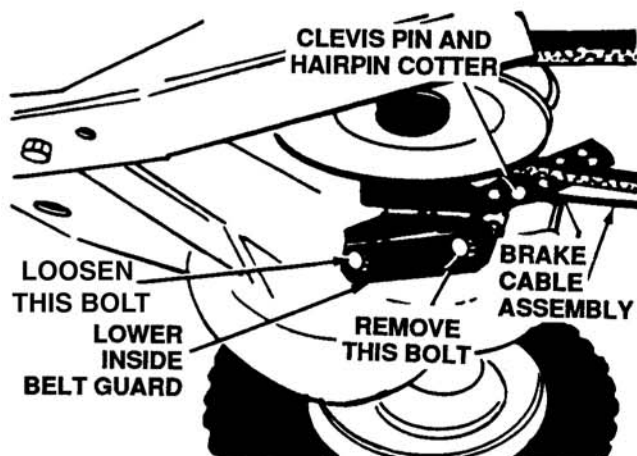

Figure 12-11. Disconnecting Brake Cable and Removing Hex Bolt
5. Disconnect the brake cable from the lower inside belt guard by removing the hairpin cotter, clevis pin and flat washer. See Figure 12-11.